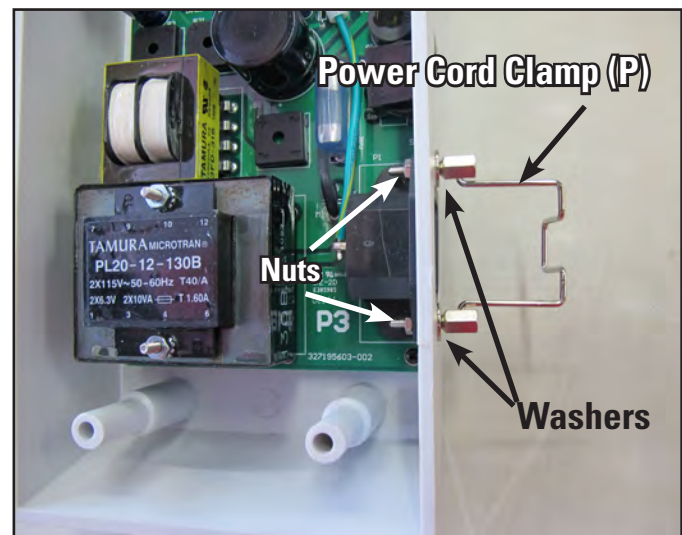

Figure 3.41
8. Make sure the power cord is fully inserted, and then tighten the two P-Pod screws so they hold the clamp securely against the P-Pod. Insert the small screw included with the retaining clamp into the clamping portion of the retaining clamp and tighten so the clamp is now tight on the power cord as shown in **Figure 3.41**.